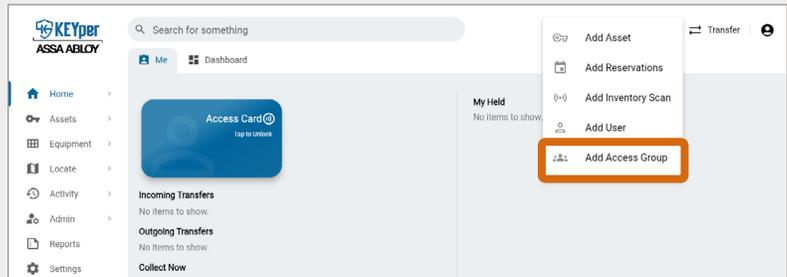

Fig. 104 – Home screen with Add Access Group indicated (KEYper GO Web)
2. Select **Add** , then select **Add Access Group**, as shown in Fig. 104.